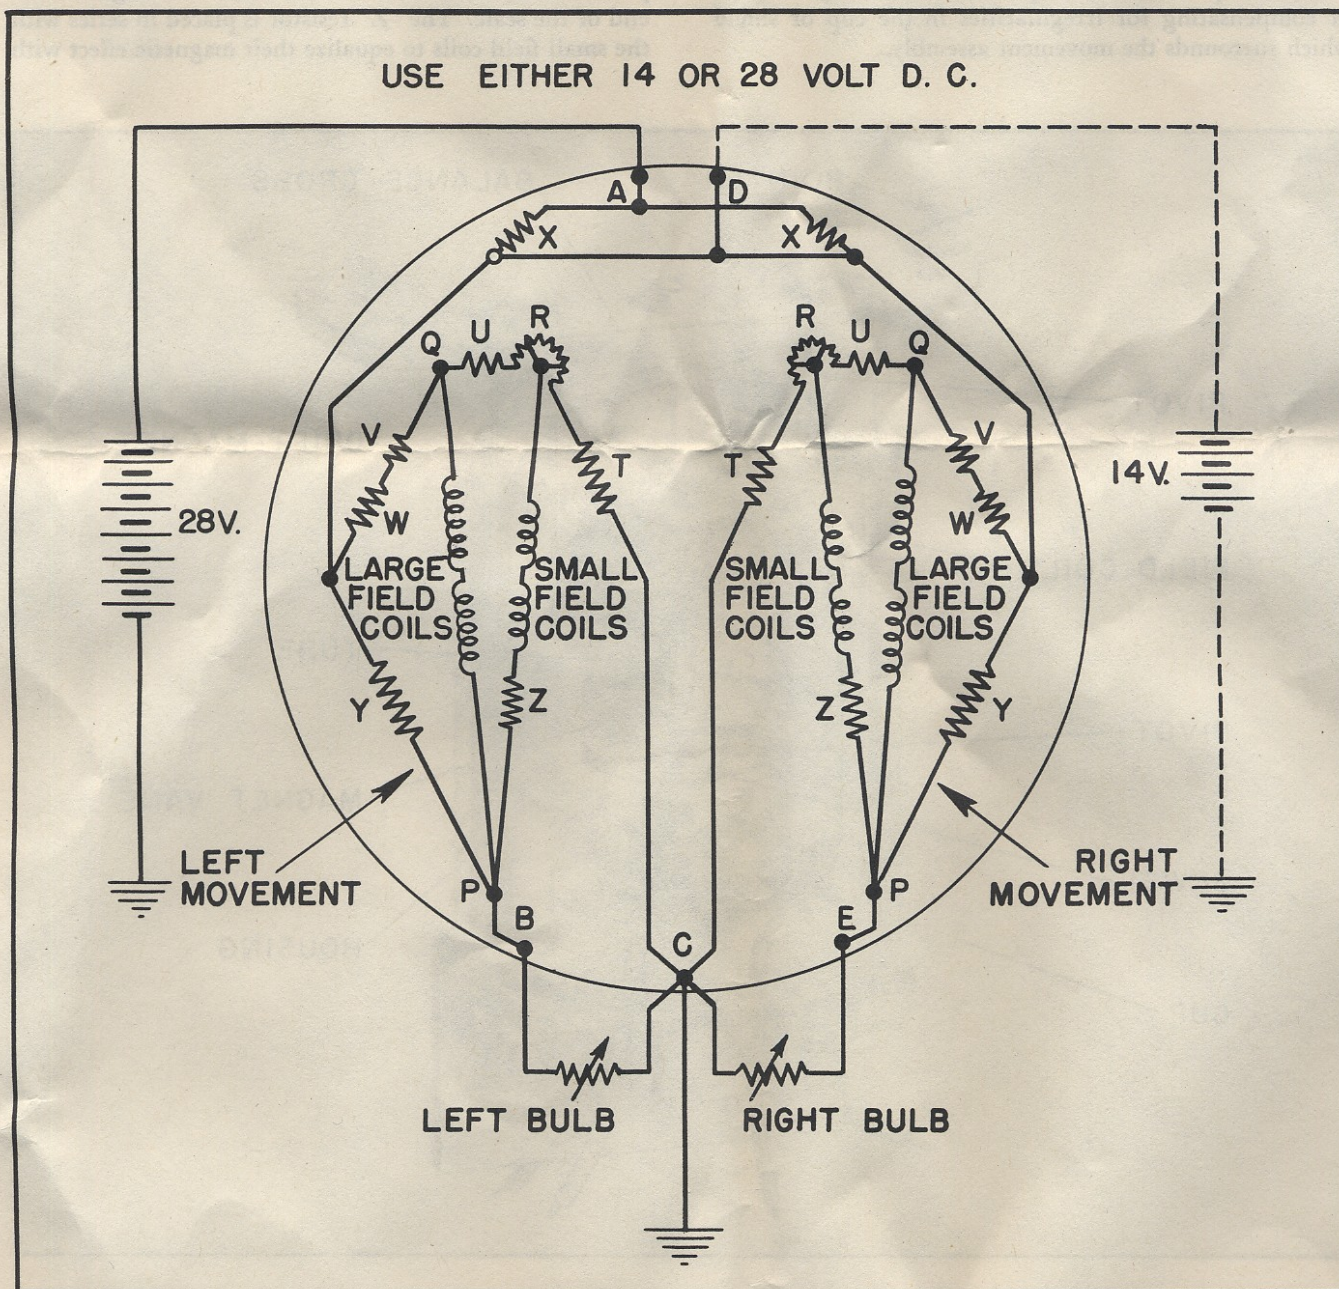

Figure 5—Schematic Wiring Diagram of Circuit
a. Resistors "T", "V", "W" and "Y", constituting the fixed legs of the bridge circuit, are mounted on the main bracket of each movement, the resistance bulb in each case acting as the variable leg. (See figures 5 and 6.) Resistor "U", being connected between the terminals of the large and small field coils, determines the scale span of the galvanometer. Any change in the resistance of this portion of the circuit, such as may be caused by moving the arm on its end of the rheostat, will cause the pointer to move either toward or away from the center of the scale. On the other hand, a change in the value of the "T" resistor part of the circuit will cause the pointer to move farther toward either the high or low end of the scale. The "Z" resistor is placed in series with the small field coils to equalize their magnetic effect with